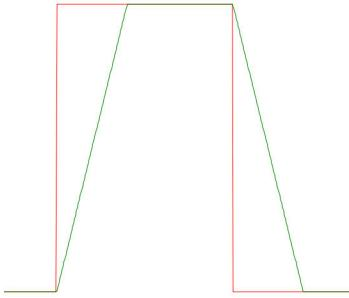

Figure 7: Slew rate effect on a square wave - red=desired output, green=actual output
**Figure 7** clearly shows this phenomenon. The red wave is the one that we will get if the response speed was maximum, and therefore there was no response delay. In practice, what we get is that shown by the green wave.